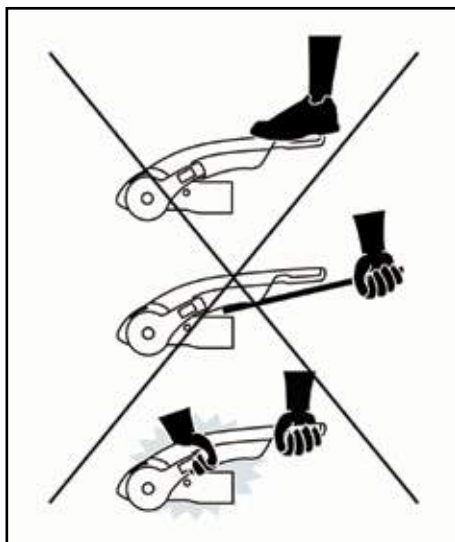

FIG. 6.
2. Press the stabiliser lever down by hand force only DO NOT use your foot or an extension bar: this will damage the components (Fig. 6).
3. When opening or closing the stabiliser lever, please ensure your hand does not touch the coupling handle, you may accidentally trap your fingers! (Fig. 6.)